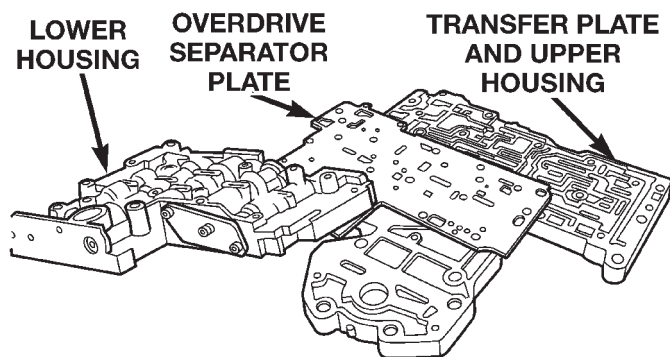

Fig. 63 Lower Housing
(29) Turn valve body over so lower housing is facing upward (Fig. 63). In this position, the two check balls in upper housing will remain in place and not fall out when lower housing and separator plate are removed.
(30) Remove screws attaching valve body lower housing to upper housing and transfer plate (Fig. 63). **Note position of boost valve tube brace for assembly reference.**
(31) Remove lower housing and overdrive separator plate from transfer plate (Fig. 63).